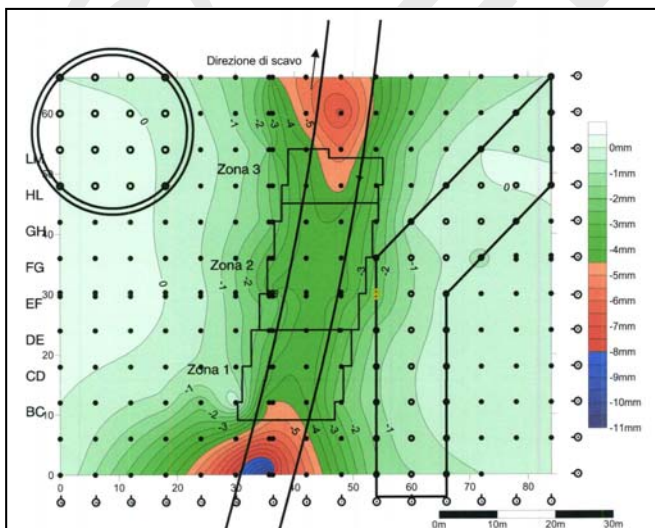

Fig.10 - Hypothesized settlement by the passage of the EPBM
Based on experience gained during previous surveys in other sites, Fig. 10, shows a hypothesis of subsidence induced by excavation only.
- In the untreated areas, settlements of around a 10mm originating from the excavation were experienced and taken into account during the project phase; as shown Fig.10.